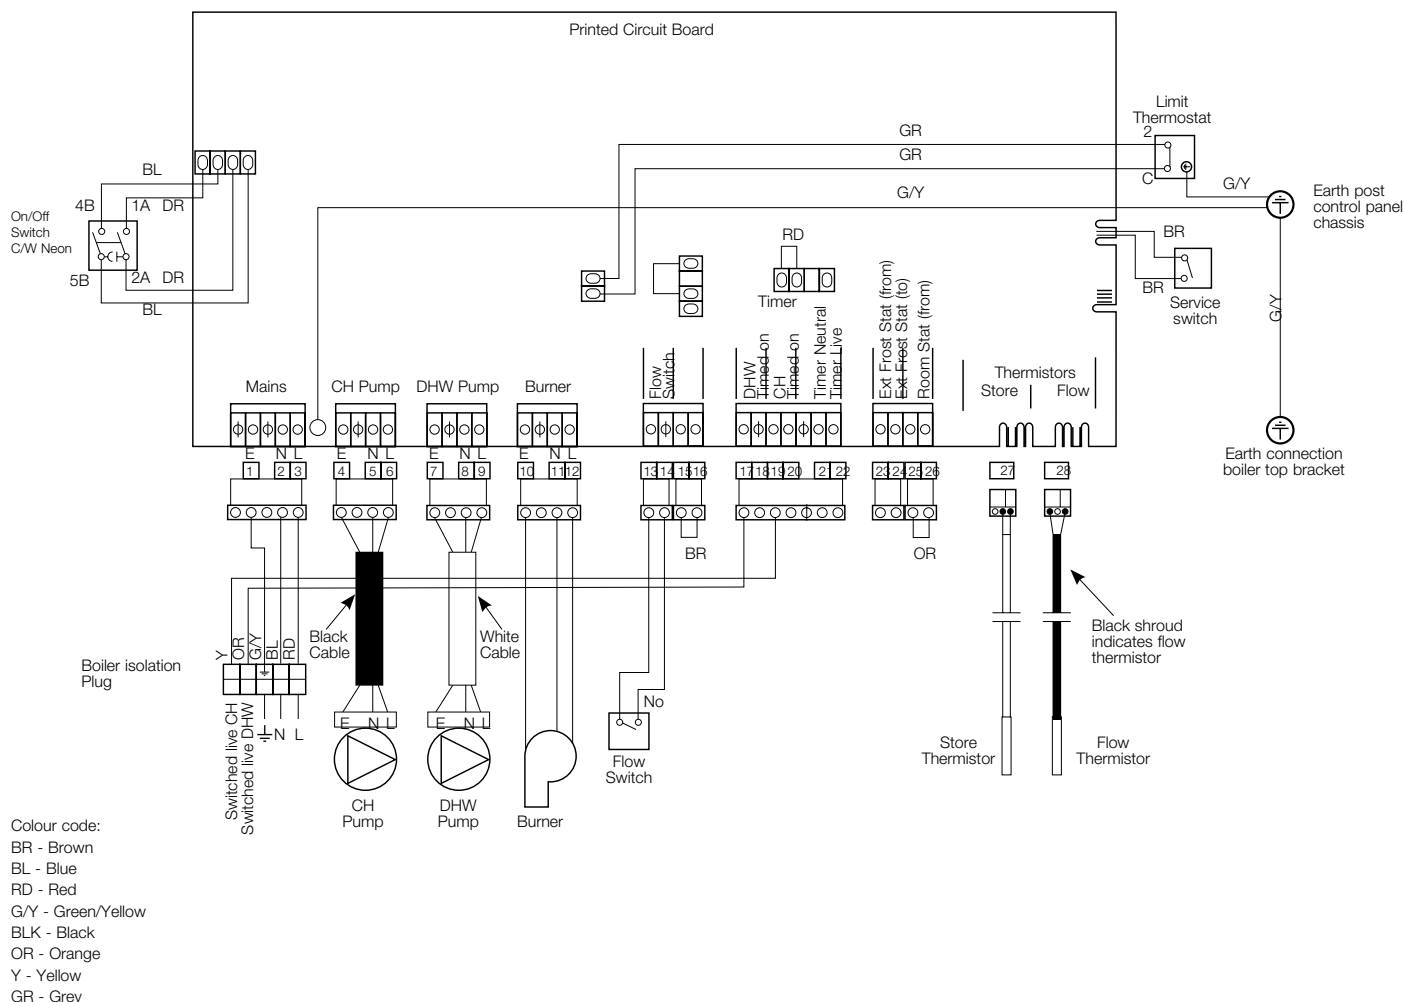

Figure 8-1: Boiler wiring diagram
- Frost thermostat Neutral (N) to terminal 21 on PCB connector.
- Frost thermostat Live (L) to terminal 24 on PCB connector.
- Frost thermostat Switched Live-ON (3) to terminal 23 on PCB connector.
6. Refer to Figure 8-1 for typical connection of Remote Frost Thermostat.